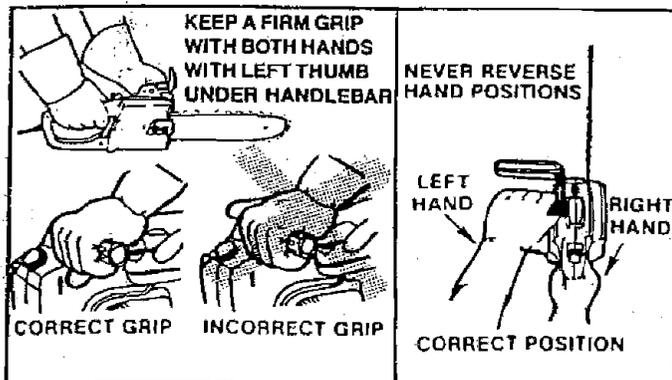

Figure 3
1. Keep a good firm grip on the saw with both hands when the motor is running and don't let go. Figure 3. A firm grip can neutralize kickback and help you maintain control of the saw. Keep the fingers of your left hand encircling and your left thumb under the front handlebar. Keep your right hand completely around the rear handle *whether you are right handed or left handed*. Keep your left arm straight with the elbow locked.
2. Never reverse right and left hand positions. Figure 3.
4. Stand slightly to the left side of the saw, to keep your body from being in a direct line with the cutting chain. Figure 3.